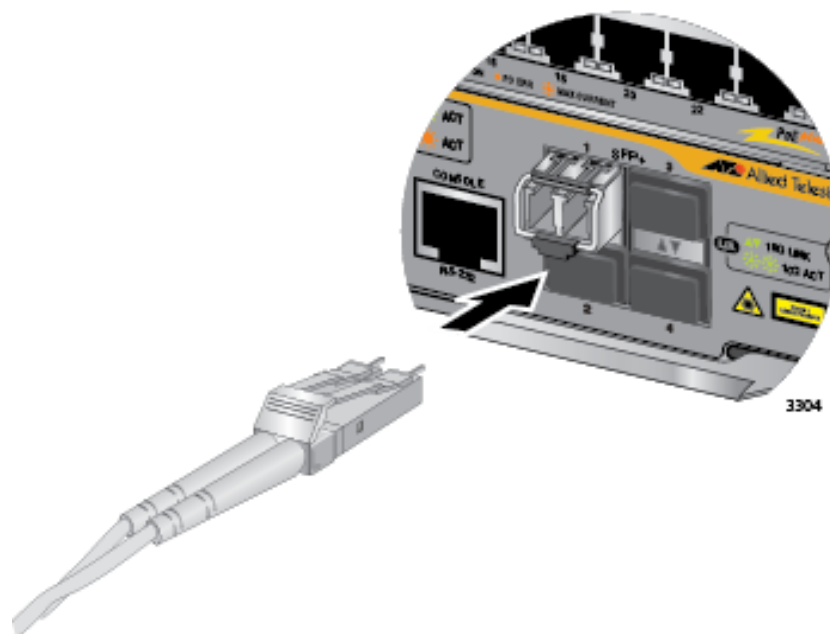

Figure 123. Attaching a Fiber Optic Cable to an SFP+ Transceiver in the AT-SBx81CFC960 Controller Fabric Card
6. Connect the fiber optic cable to the port on the transceiver, as shown in Figure 123 on page 200. The connector should snap into the port.